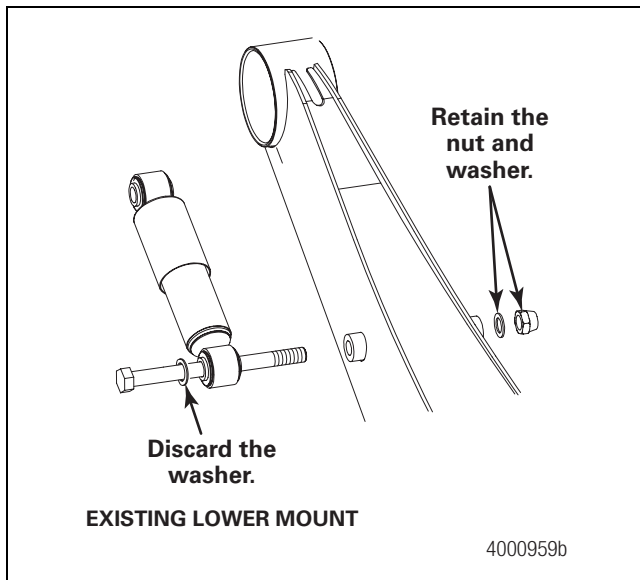

Figure 3
- Remove the 7/8-inch (22.23 mm) nut and 7/8-inch x 1-3/4-inch O.D. (22.23 x 44.45 mm) washer from the LOWER shock absorber mounting. Do not discard this washer. Figure 3.
- Remove the 7/8-inch (22.23 mm) nut and 7/8-inch x 1-3/4-inch O.D. (22.23 x 44.45 mm) washer from the LOWER shock absorber mounting. Remove the lower bolt and washer from the shock absorber. Discard the washer that's under the bolt head. Figure 3.